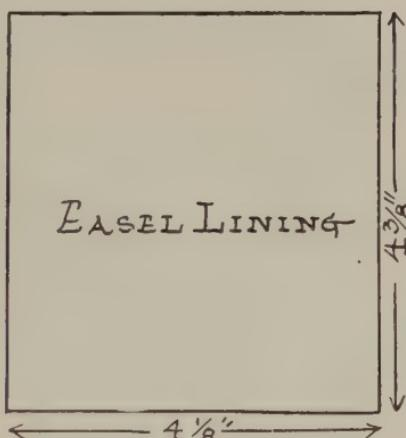

FIG. 70B—EASEL LINING PAPER.
8. Next cut a piece of the *same paper* as you have just selected *for the easel* with which to cover the inside of the easel. As the easel board is $4\frac{3}{8}$ " wide and measures $4\frac{1}{2}$ " to the joint where it will be glued to the back of the face board we only need a piece $4\frac{1}{8}$ " x $4\frac{1}{2}$ ". (Fig. 70B.)